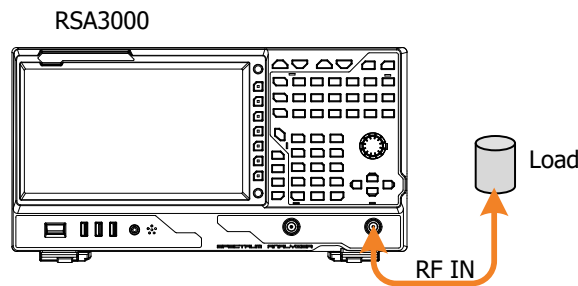

Figure 2-1 DANL Test Connection Diagram
1. Connect the 50 Ω matched load to the RF input terminal of RSA3000, as shown in Figure 2-1.